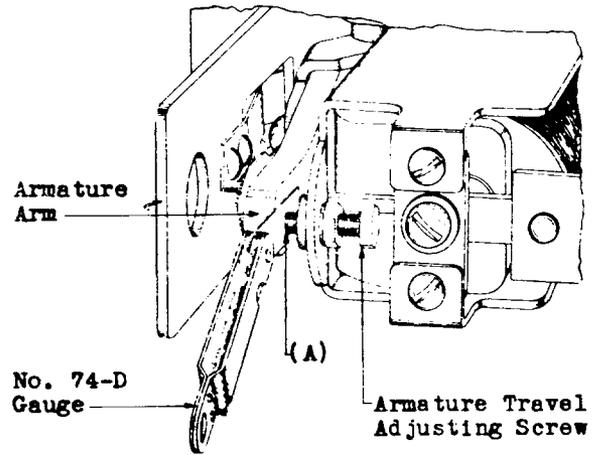

Fig. 7
(b) 229 and 230 Type Relays - Fig. 7 (A) -